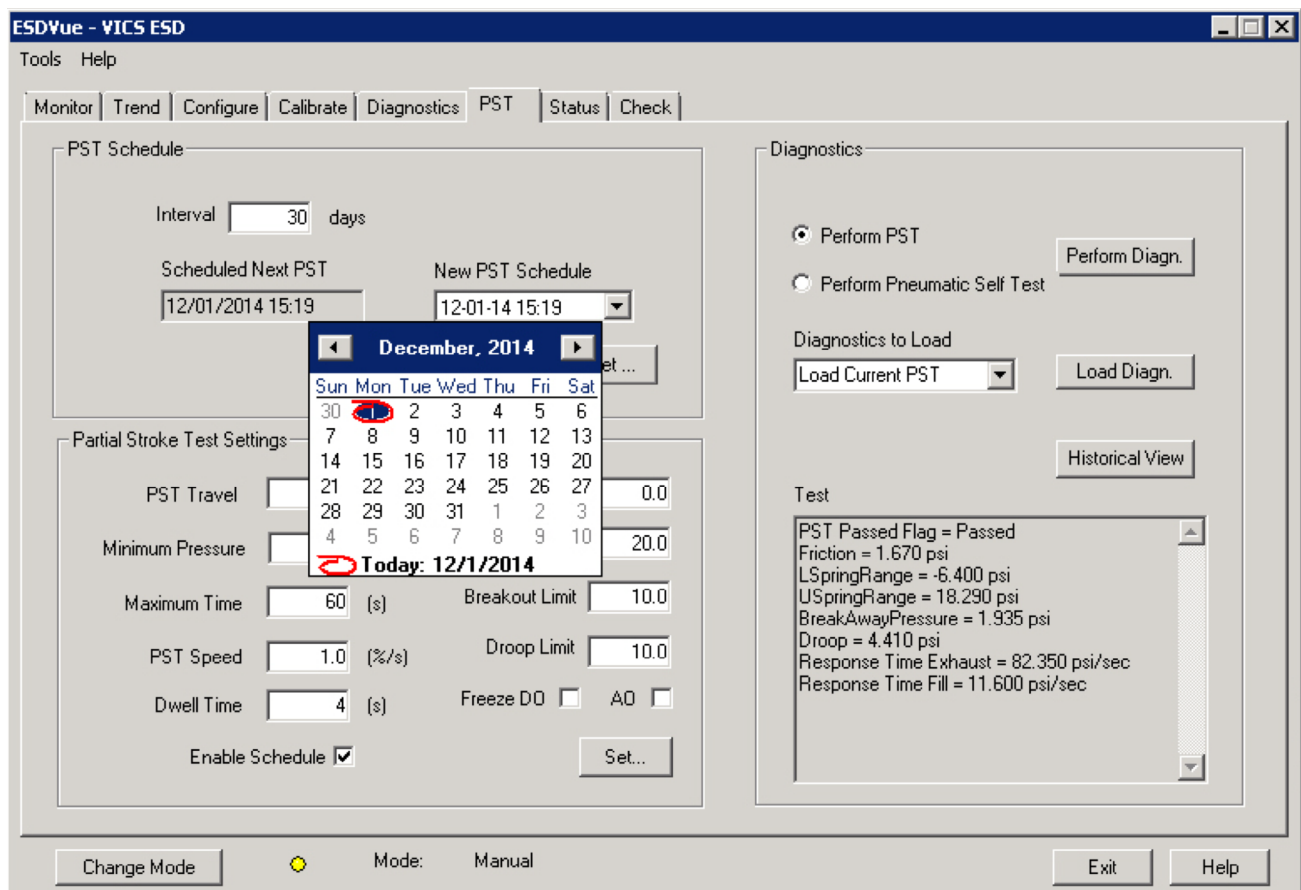

Figure 244 - Selecting Calendar Feature
- b. Click in the drop down, located at the right of PST schedule date field and access the date calendar (*Figure 244*).